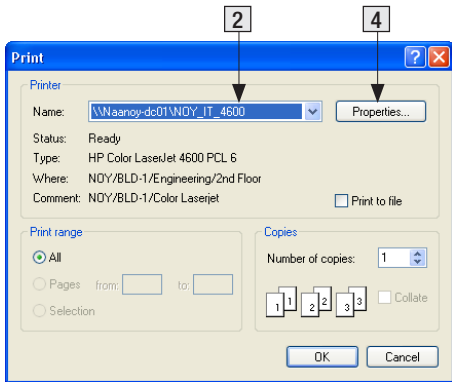

Figure 6-1: Print Setup Dialog Box.
- Or, from the [File] menu, select the [Print] command. The [Print] dialog box will be displayed (see Figure 6-1).